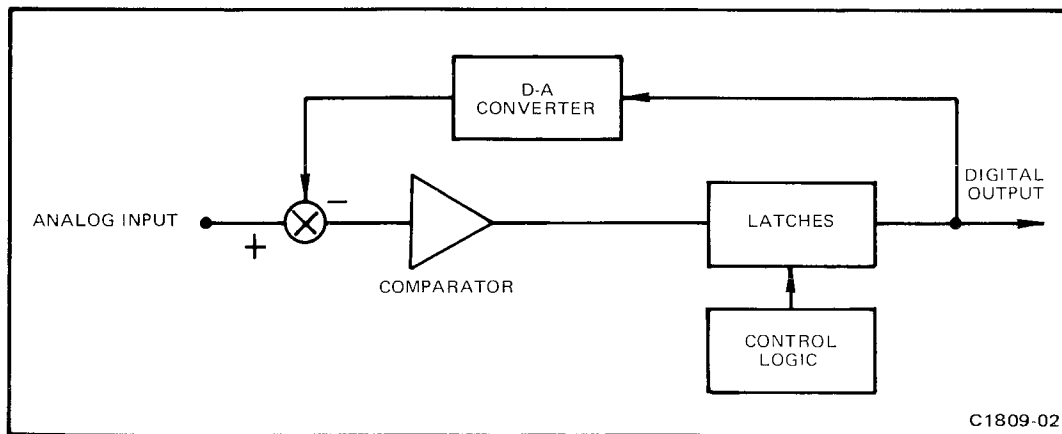

Fig. 2-1. Simplified Block Diagram of an A-D Converter.
The basic stages of the A-D Converter are: (1) Latches, (2) Digital to Analog (D-A) Converter, (3) Comparator, and (4) Control Logic. Fig. 2-1 shows how these blocks are connected to form an A-D Converter. The D-A is the feedback element which converts the digital output into an analog current proportional to that output.